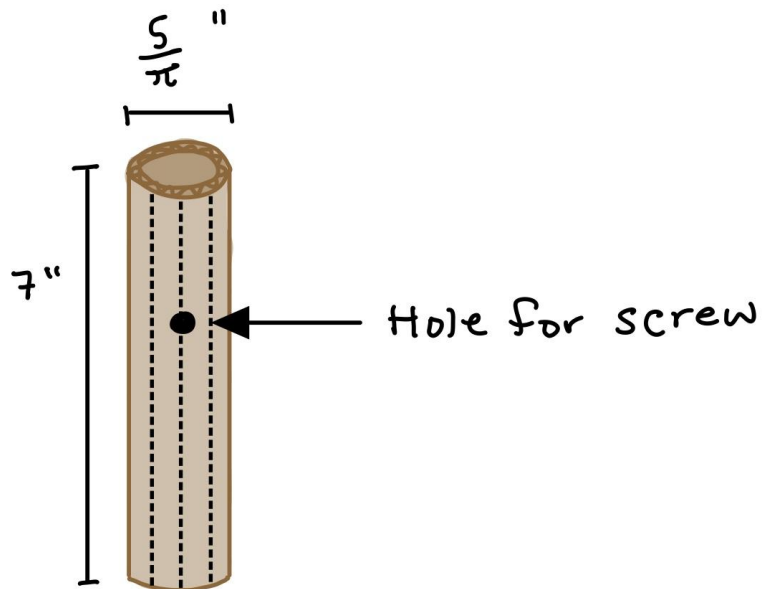

Figure 2. 5" x 7" cardboard sheet rolled into a cylinder, with height of 7" and diameter $5/\pi$
8. Roll each cardboard sheet into a cylinder using the scores made in Step 2. The cylinders will have 5" circumferences. See Figure 2 in Appendix C for drawing. Use tape to join the two ends of the cylinder together. Tape the base of each cylinder to whatever surface you want the device to rest on. I used a desk.